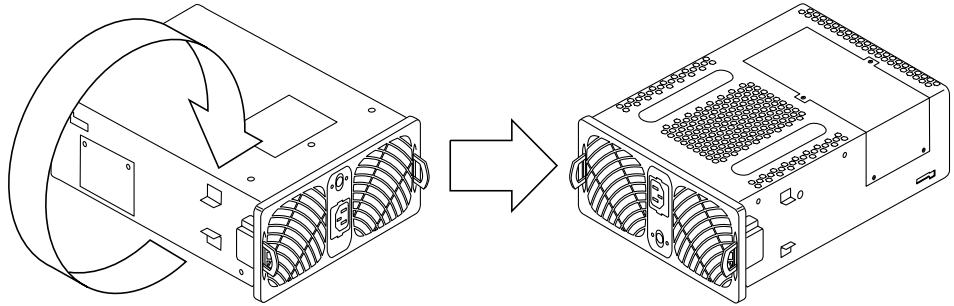

FIGURE 7-4 Turning the PCU upside down
2. **Turn the PCU over such that the bottom of the unit is facing up as shown in FIGURE 7-4.**